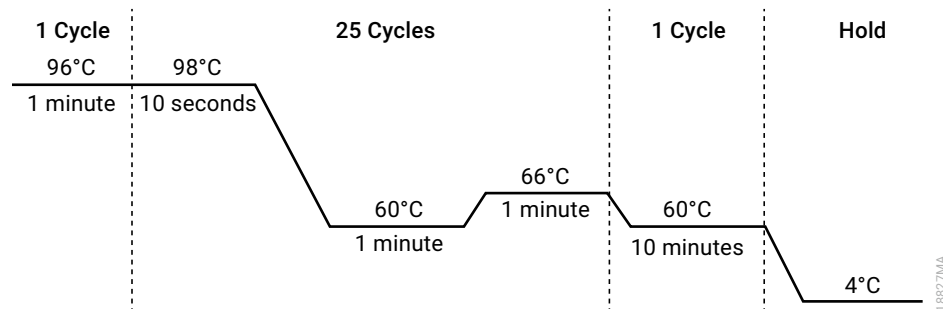

Figure 36. Thermal cycling protocol for Mastercycler® X50s PCR System.
2. Select and run the recommended protocol provided below and in Figure 36. The total cycling time is approximately 75 minutes